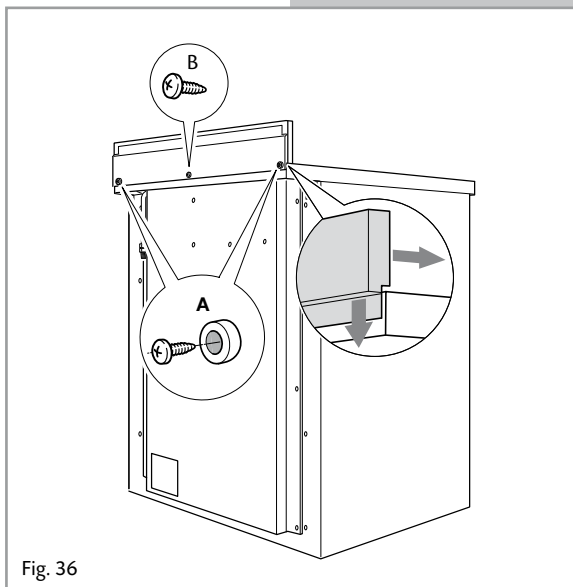

Fig. 36
- Assemble the backguard as shown in figure 36 and fix it by screwing the central screw "B" and the spacers "A".